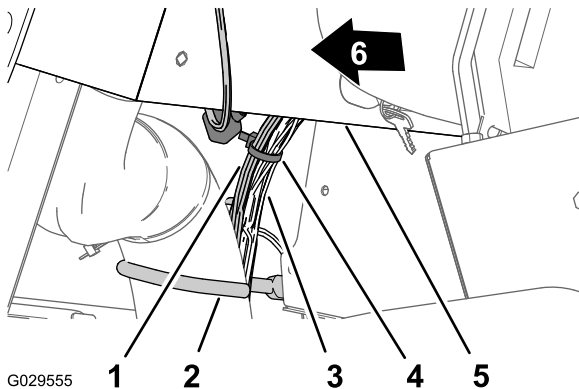

Figure 17
5. Adjacent to the cable and hose hook, secure the 240 cm (94-1/2 inch)—dash-panel branch to the wire harness for the machine with a cable tie (Figure 17).